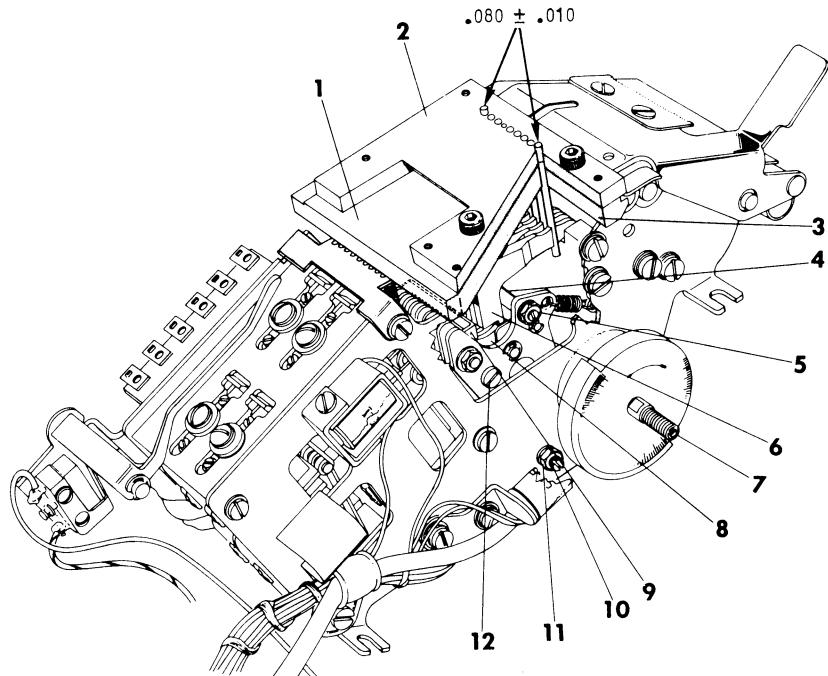

Figure 5-11 Punch Assembly (Reprinted with permission of Royal Typewriter Company, Inc., A Division of Litton Industries; all rights reserved.)
5.4.5.1 Method (1) – Refer to Figure 5-11. Remove the lucite punch cover and install gauges (DEC No. 29-15194) in the number 1 and 8 holes in the die assembly.